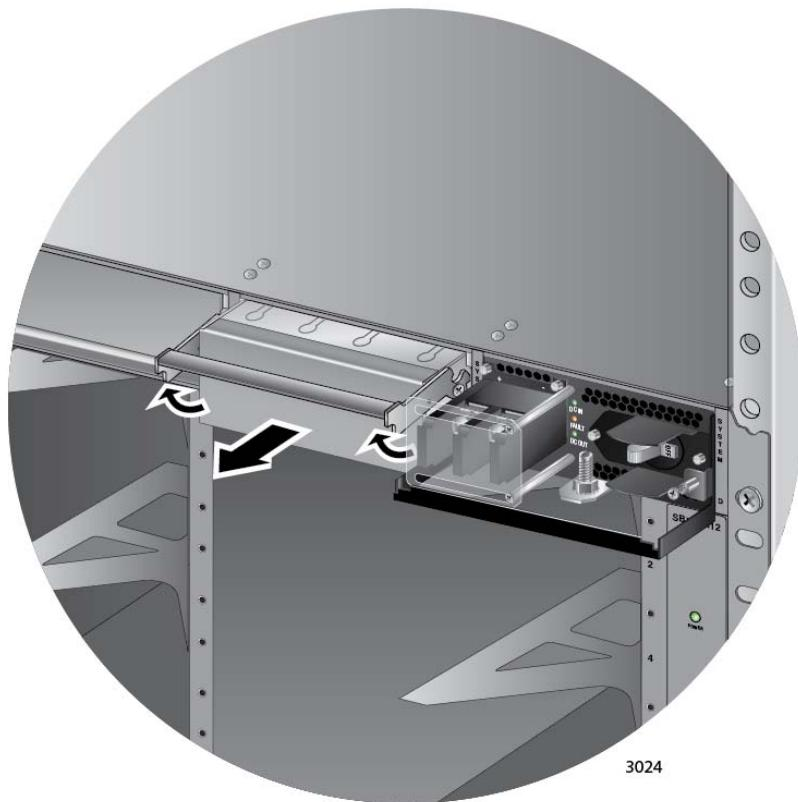

Figure 56. Removing the Blank Slot Cover from Power Supply Slot C
2. If the chassis already has a power supply in slot D, remove the blank power supply panel from slot C by lifting the blank panel handle and sliding it out of the slot, as shown in Figure 56 on page 102.